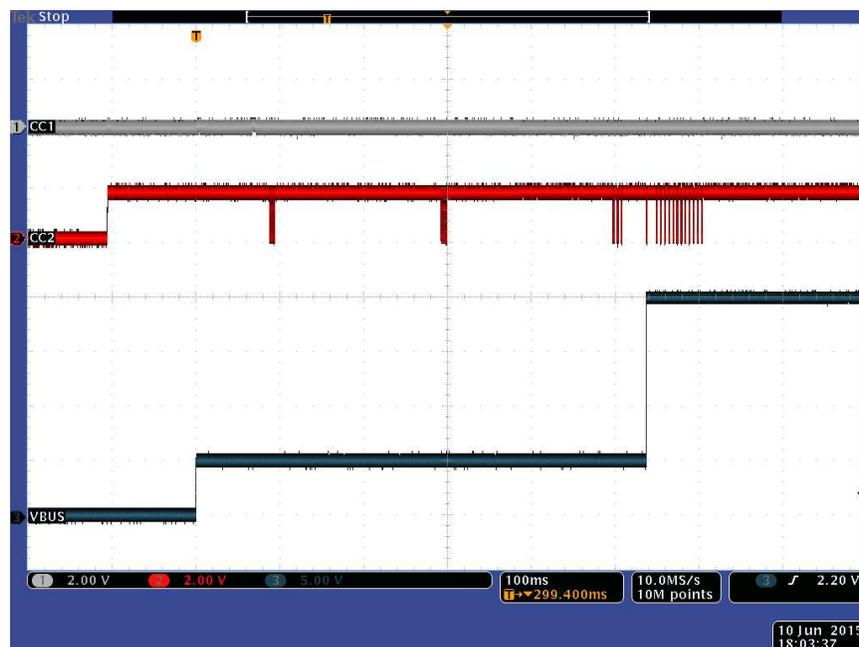

Figure 10. Type-C Connection and PD Negotiation
- Probe VBUS, CC1, and CC2 to check for any anomalies. Figure 10 shows a successful power contract.